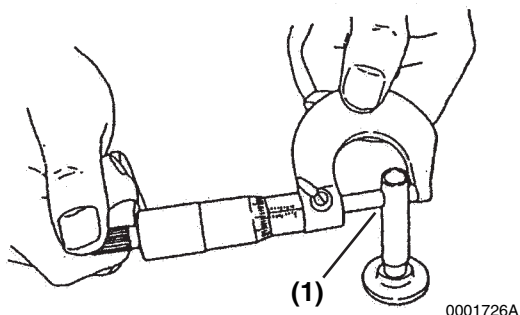

Figure 6-118
2. Measure the outside diameter of the tappet stem (**Figure 6-118, (1)**). See *Tappet* on page 6-22 for the service limit.